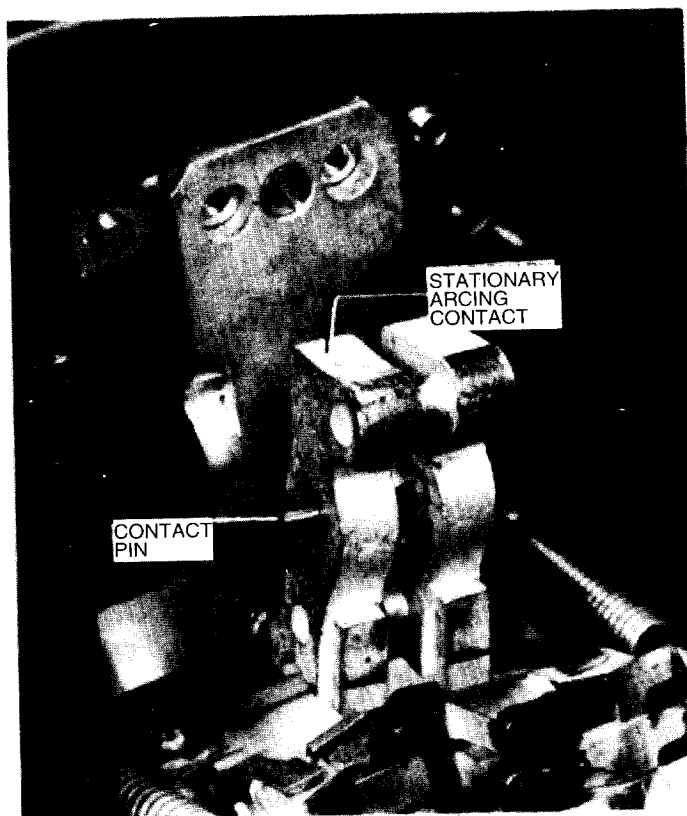

FIG. 50C — ARCING CONTACT
3. Remove the insulating spacers, contact pin and arcing contacts, see Fig. 50C.